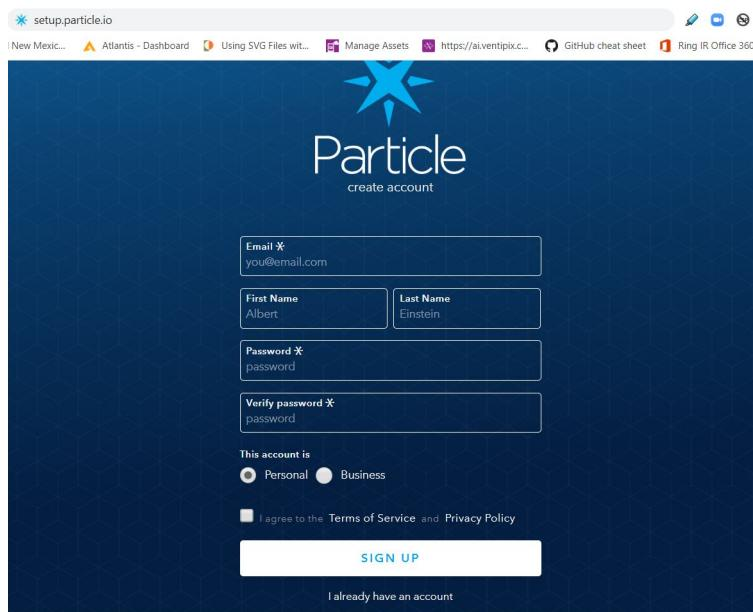

Figure 7.2: Particle Argon Setup
2. particle serial identify (Figure 7.2)